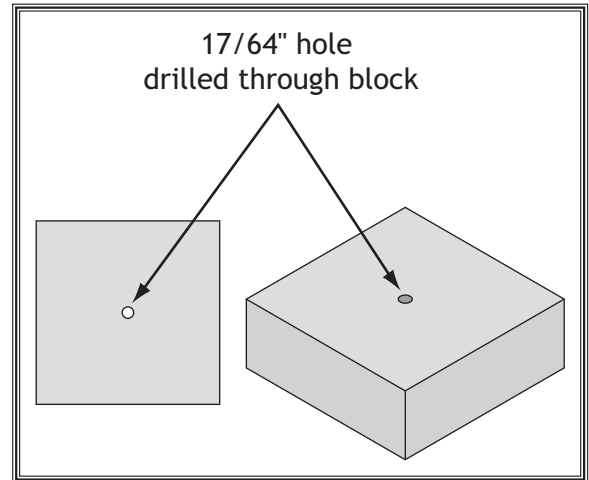

Figure 12. Example of shop-made alignment block with 17/64" hole.
3. Locate a piece of scrap 2x4 that is at least 4" long, drill completely through the center of it with a 17/64" drill bit, so it is slightly larger than the 1/4" table pin (see **Figure 12**).